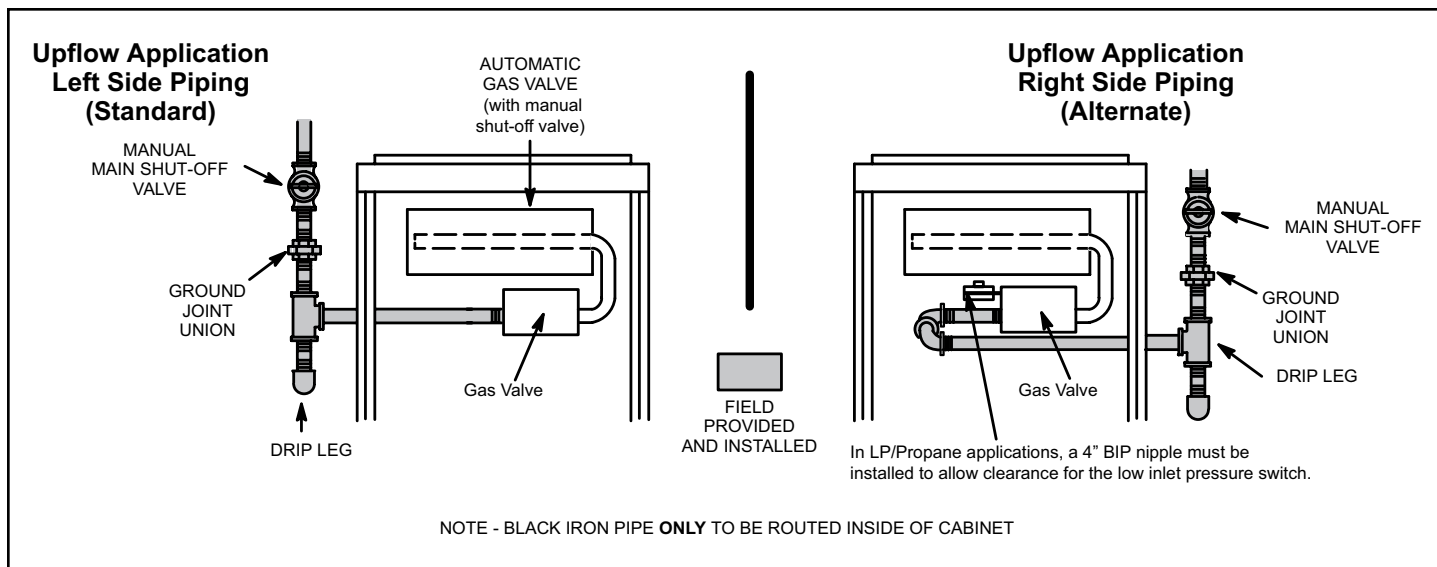
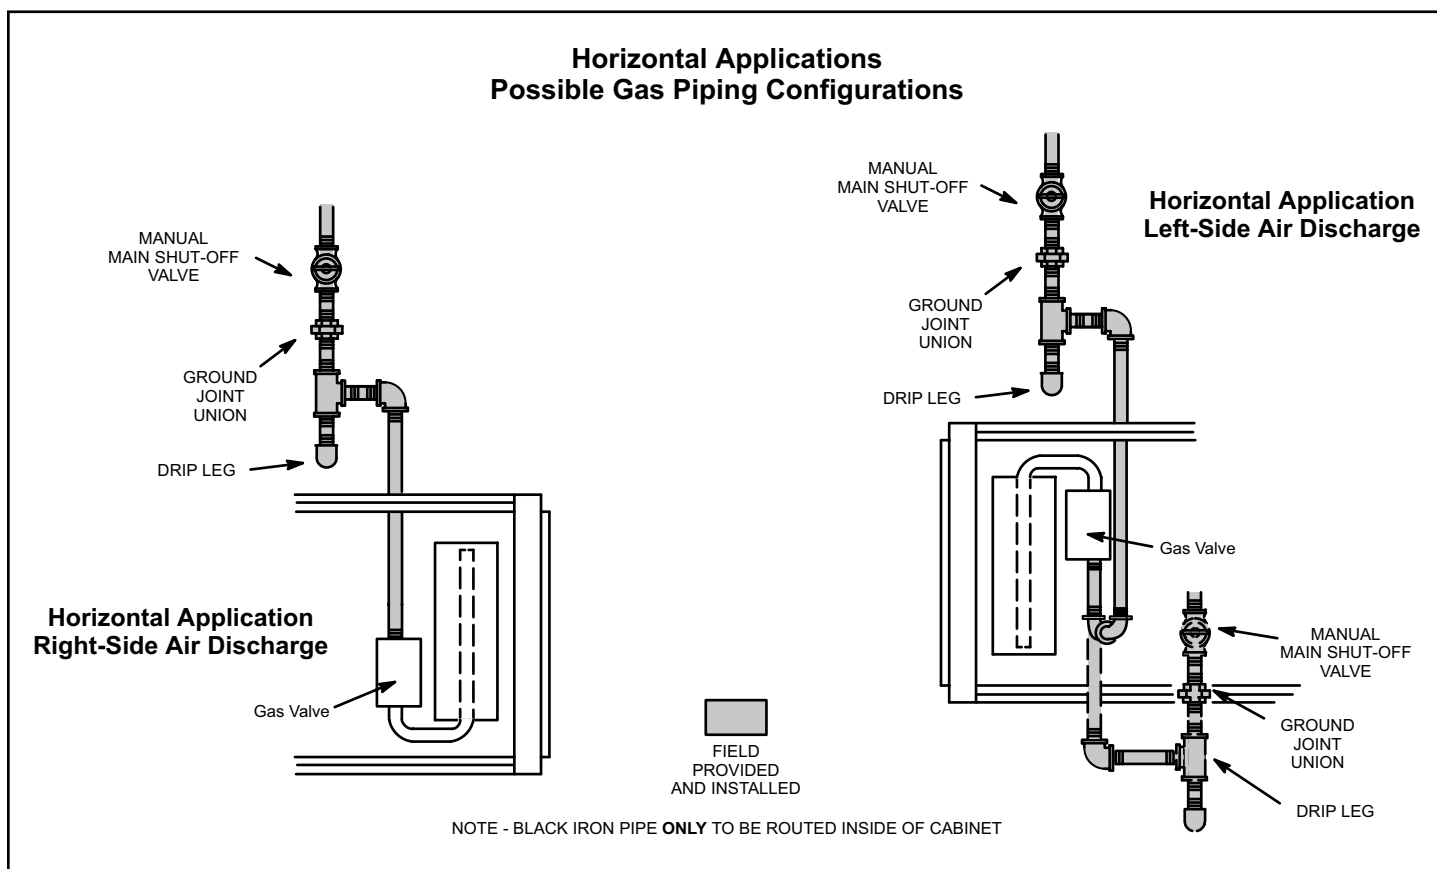

Figure 61. Upflow Applications Possible Gas Piping Configurations
Figure 62. Horizontal Applications Possible Gas Piping Configurations
1. Gas piping may be routed into the unit through either the left or right hand side. Supply piping enters into the gas valve from the side of the valve as shown in Figure 61 and Figure 62.
3. Gas piping must not run in or through air ducts, clothes chutes, chimneys or gas vents, dumb waiters or elevator shafts. Center gas line through piping hole. Gas line should not touch side of unit. See Figure 61 and Figure 62.